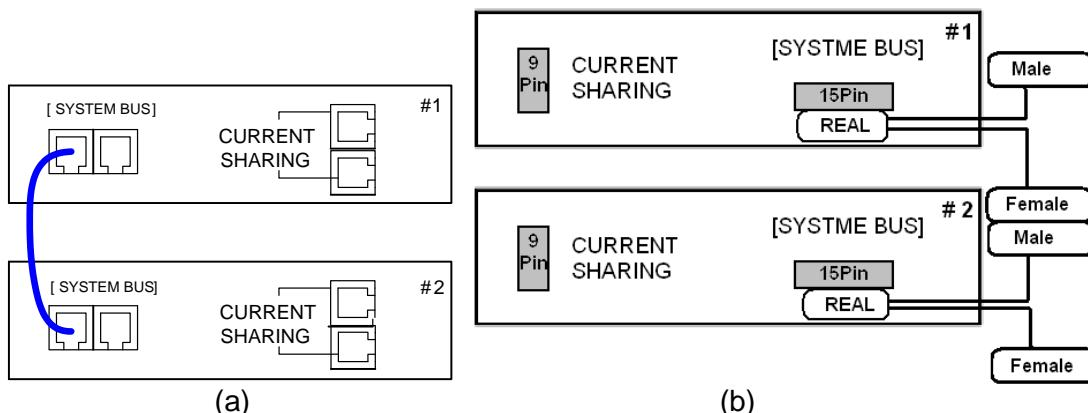
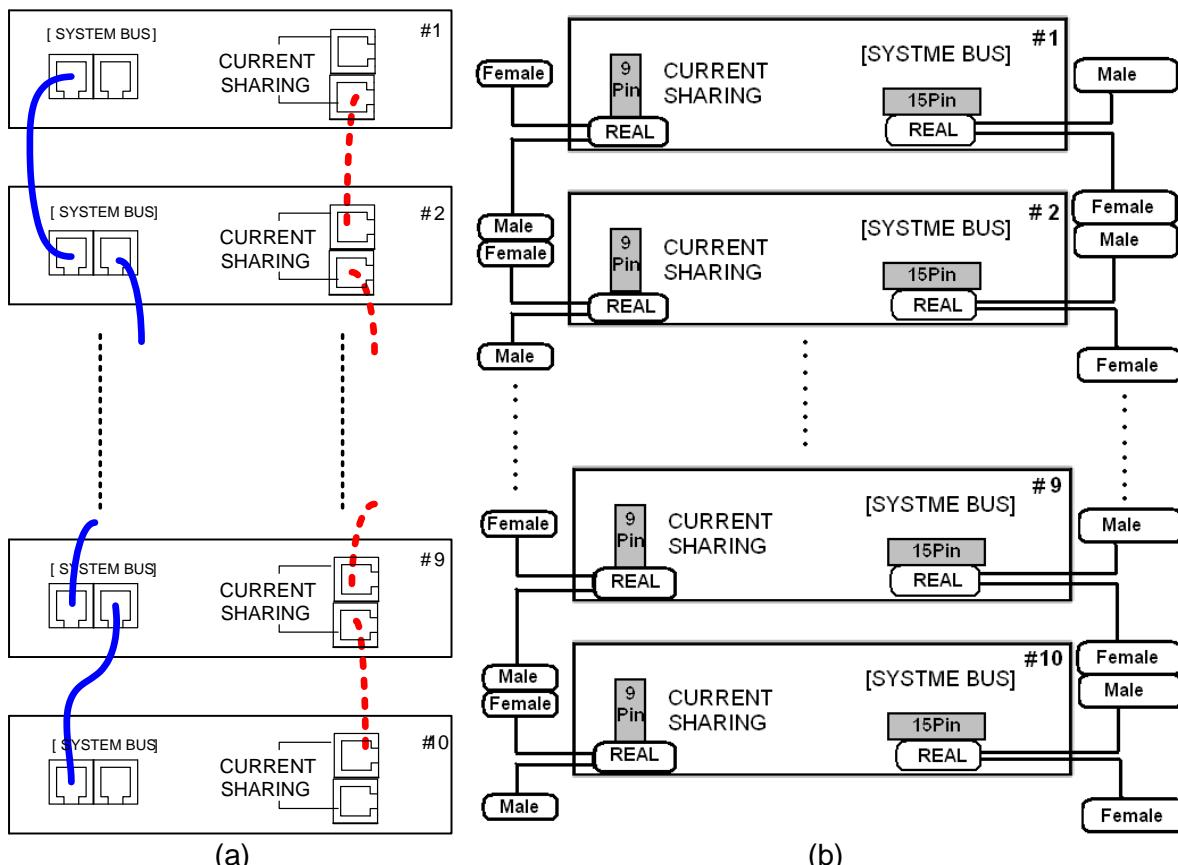
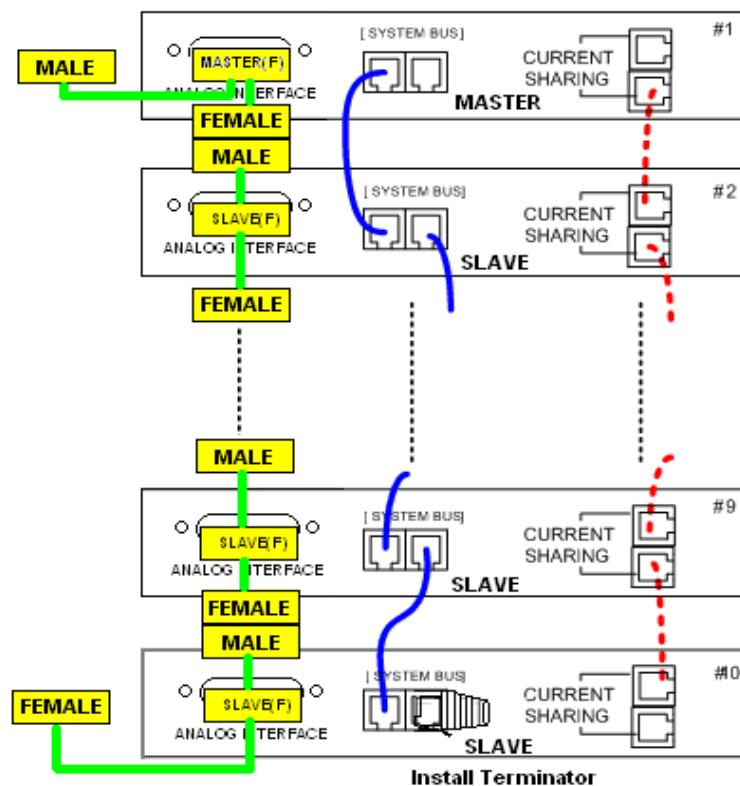
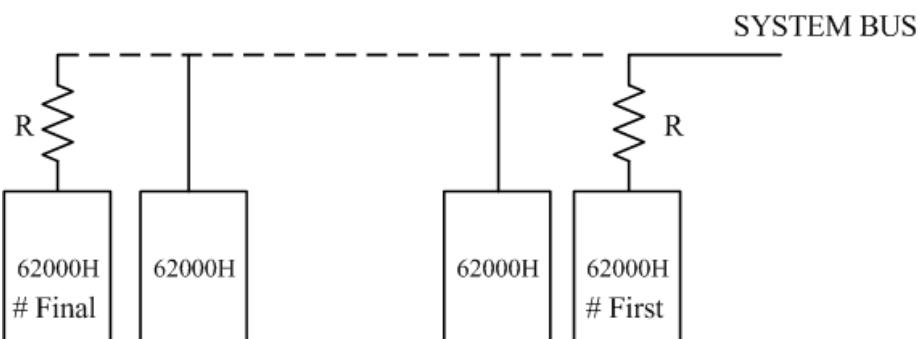

Figure 3-34
Figure 3-35
Figure 3-36
Figure 3-40
- When the DC Power Supplies are connected in series, the SYSTEM BUS connectors on the rear panel must be connected as shown in Figure 3-34(a.). For the 62020H-150S, connect the cables as shown in Figure 3-34(b).
2. When the DC Power Supplies are connected in parallel, both the SYSTEM BUS and CURRENT SHARING connectors must be connected as shown in Figure 3-35 (a) [and Figure 3-35 (b) for the 62020H-150S]. For the A620028 and A620027 the MASTER unit and ANALOG must be connected as shown in Figure 3-36.
2. The A620028 and A620027 SLAVE models have a 1 to 2 ANALOG communication cable labeled "SLAVE". This standard accessory is for A620028 and A620027 use only. The other 1 to 2 ANALOG cable labeled "MASTER" connects the MASTER side with the A620028 and A620027 as shown in Figure 3-36 (this cable is optional).
3. Plug in the 62020H-150S SYSTEM BUS CABLE connector labeled "REAL" to the device rear panel. See Figure 3-35(b) for connecting other devices for communication.
1. Each DC Power Supply has two RS485 female interface connectors. They must be connected for series or parallel operation. There is no difference between left and right; just connect one after another as shown by the solid line in Figure 3-34 or Figure 3-35. For the 62020H-150S, connect the 15P 1 to 2 cable labeled "REAL" to the rear panel; also connect the two cables as shown in Figure 3-34 or Figure 3-35. The maximum length for the communication cable is 7.2 meters. Exceeding the length limit may result in unstable operation.
2. Each DC Power Supply has two CURRENT SHARING connecting terminals. Connect the output terminal of the first Power Supply to the input terminal of the second Power Supply and so forth as shown by the dotted lines in Figure 3-35. For the 62020H-150S, connect the 9P 1 to 2 cable labeled "REAL" to the rear panel; also connect the two cables as shown in Figure 3-35. Be sure to use the CURRENT SHARING communication cable provided by CHROMA. The maximum length for the CURRENT SHARING cable is 3.4 meters. Exceeding the length limit may result in unstable operation.
4. When the A620028 and A620027 are connected to the MASTER unit, install a Terminator on the last SYSTEM BUS of the parallel path as shown in Figure 3-36.
When the 62000H Series Models with Solar Array Simulation are operating in MASTER OR SLAVE mode, be aware of the M/S TERMINATOR setting. Assuming the connection is as shown in Figure 3-40, the M/S TERMINATOR of the first and last devices must be ENABLED with a 120Ω internal resistance. When using A620028 and A620027 SLAVE models, the TERMINATOR is installed externally as shown in Figure 3-36.
Connect the cables on the rear panel as shown in Figure 3-34 when set to SERIES and as shown in Figure 3-35 when set to PARALLEL.